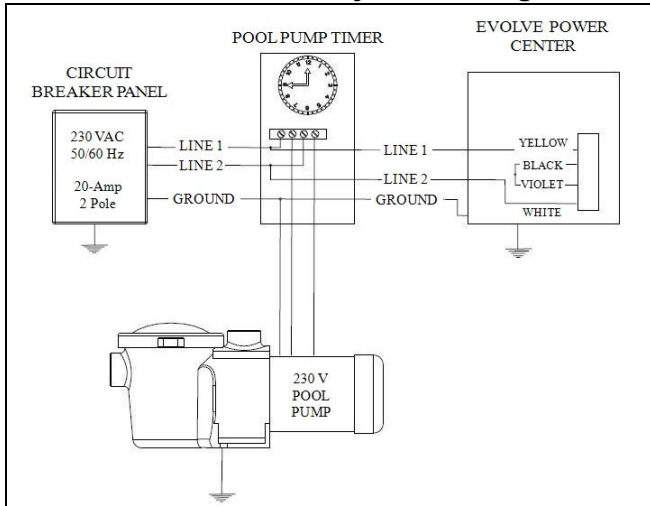

Figure 5
- See **Figure 5** for basic wiring to equipment.